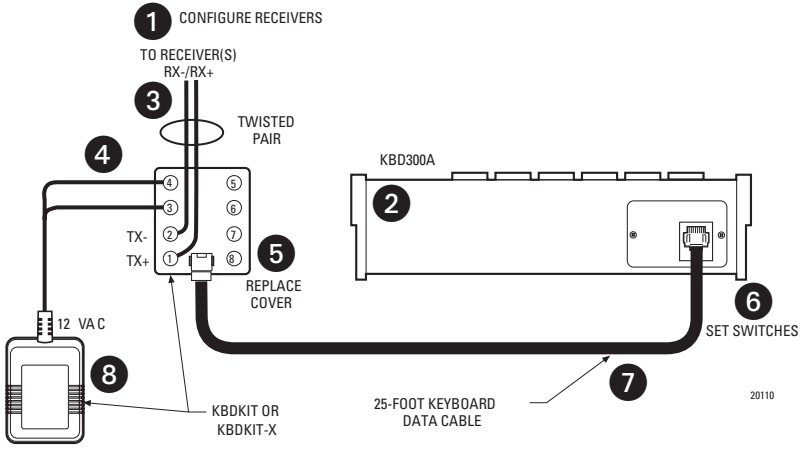

Figure 10. Direct Keyboard and Receiver Wiring
Refer to Figure 10.
- 3 Remove the cover from the KBDKIT or KBDKIT-X wall block. Connect the transmission wires from the receiver (Spectra/Esprit system) to the wall block. Refer to Figure 10 and do the following: